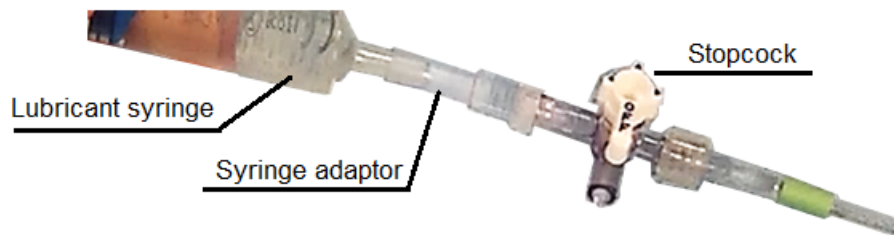

Figure 11: Lubricant syringe with adaptor and stopcock
- a. Connect the provided three-way stopcock and the syringe adaptor to both the green and black-labeled channels (*Figure 11*).
- b. Connect the provided low-viscosity lubricant syringes to the syringe adapters by pressing the taper on the syringe into the syringe adapter tubing (*Figure 11*).